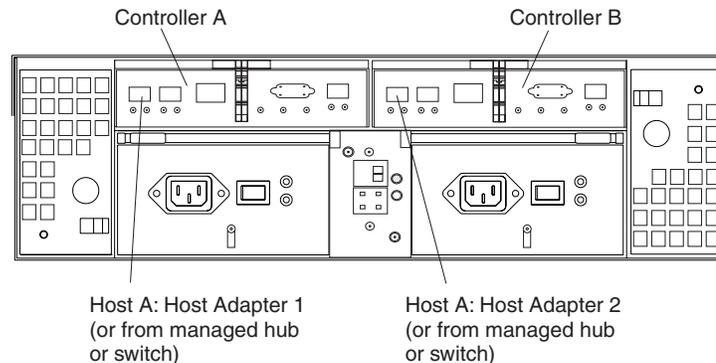

Figure 36. Location of host cables (Model 60U/60X)
2. Connect the host-system Fibre Channel cables between the RAID controller host ports and the HBA ports or Fibre Channel switch ports. Figure 36 shows the location on the RAID controllers where the host-system cables connect.